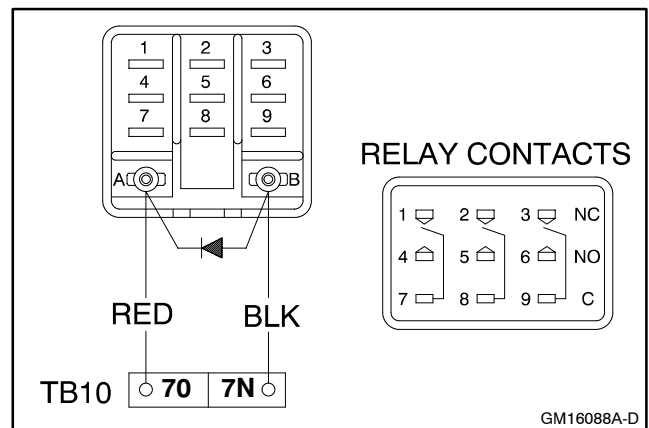

Figure 3 Run Relay Kit Connections for 550 Controller
- 3.1.2 Connect the red wire of the run relay to TB10-70. See Figure 3.